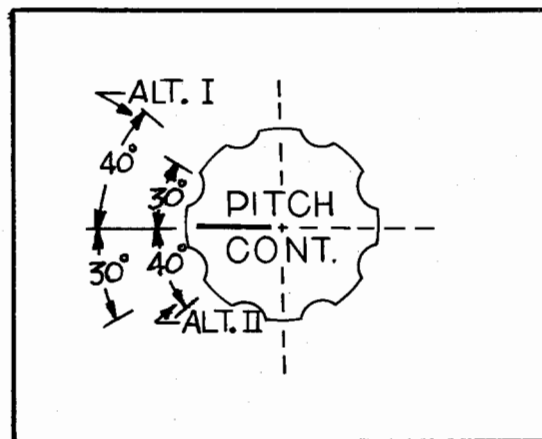

Figure 2-5. Automatic Position
- f. When the knob is pulled aft it should have the amount of travel shown in figure 2-5.